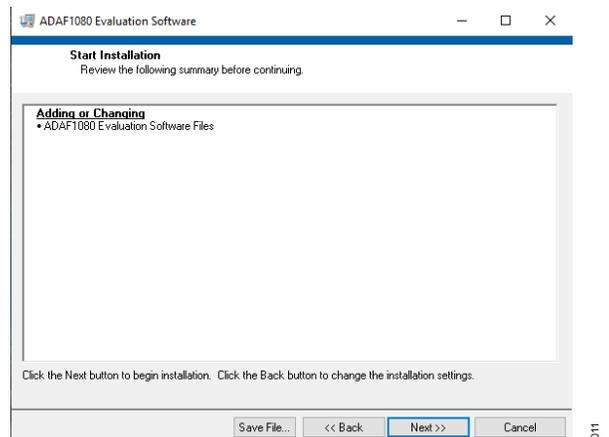

Figure 11. Start Installation Window
6. The window shown in **Figure 11** provides a summary of the software installation. Click **Next** to install the software listed in the window.